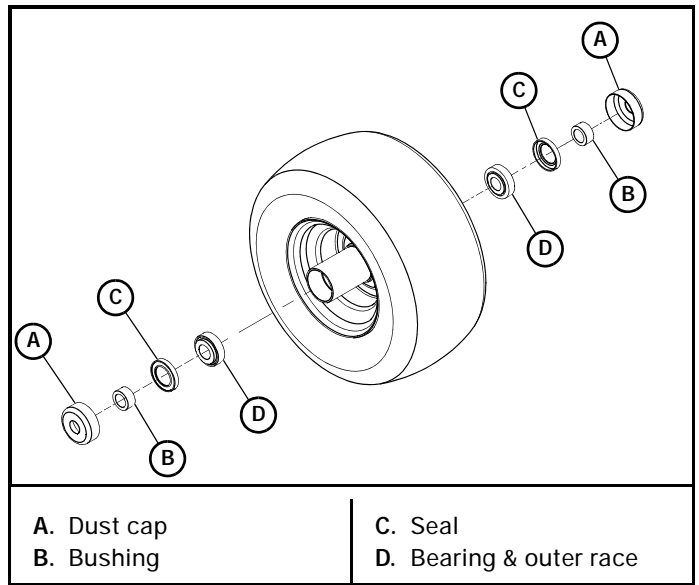

Figure 4-26
4. Remove the dust caps and bushings from the wheel housing. Retain these parts. Figure 4-26
5. Remove and discard the seals. Figure 4-26
6. Remove and discard the tapered roller bearings and outer bearing races. Figure 4-26